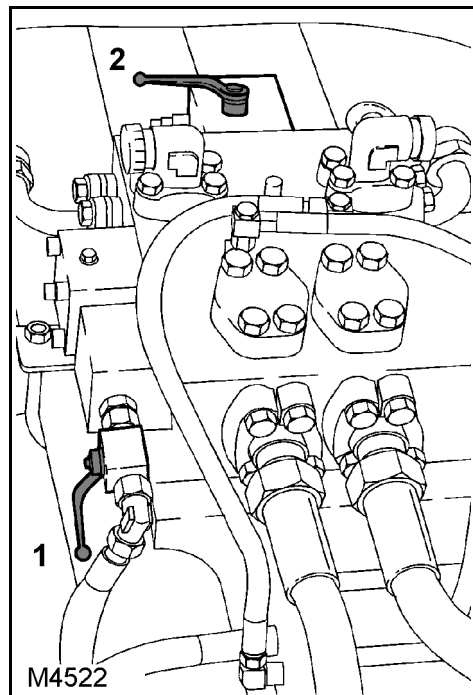
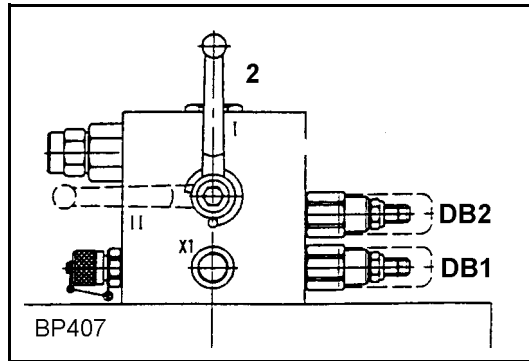

Fig. 227 Ball valves on pump kit control block
Fig. 228 In detail: Ball valve 2
- The hydraulic oil becomes very hot because a large portion of the oil constantly flows through the pressure relief valve (PR2; 50 bar reduction (**Fig. 227**)).
- Close ball valve (1) (**Fig. 227**) (position "Pressure control").
- Move ball valve (2) (**Fig. 227**) / (**Fig. 228**) into position (II) "Pressure control".
6. Leave the ball valve (2) (**Fig. 227**) in position (II) "Pressure control".
7. Reopen the ball valve (1).